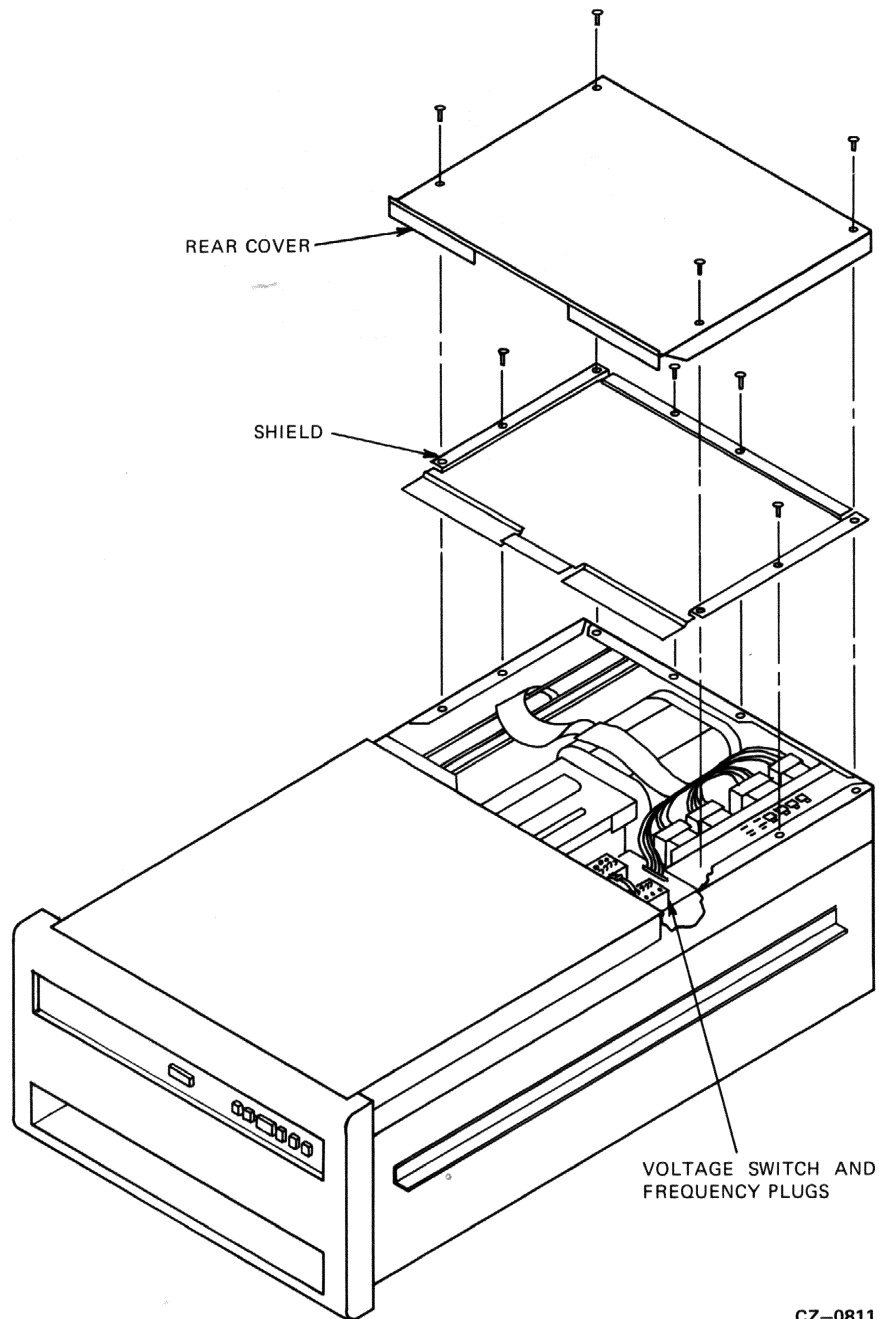

Figure 2-17 Removing the Rear Cover and Shield
1. Remove the rear cover and shield from the disk drive. Refer to Figure 2-17.
The RA60 Disk Drive contains a universal power supply that may be used for 120/240 volt ac and 50/60 Hz operations. The only requirement is that you preset the voltage and frequency to the desired range. Refer to Paragraph 2.9, and to Figures 2-17, 2-18A, and 2-18B to perform this procedure.